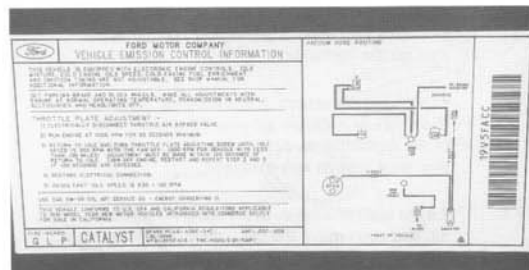

Fig. 2-10. VECI decal for 1991 1.8L Escort.
First, determine the engine and its EEC or MECS system. Start with the Vehicle Emission Control Information (VECI) decal under the hood. See Fig. 2-10. You'll see the engine-control system and what's adjustable, and what's not. You may need to verify whether this is a 49-state car, a California car, or a 50-state car. Those differences can be important. You'll see the Model Year (MY), which can be trickier than you think. Some 1991 MY cars were introduced as early as March 1990.